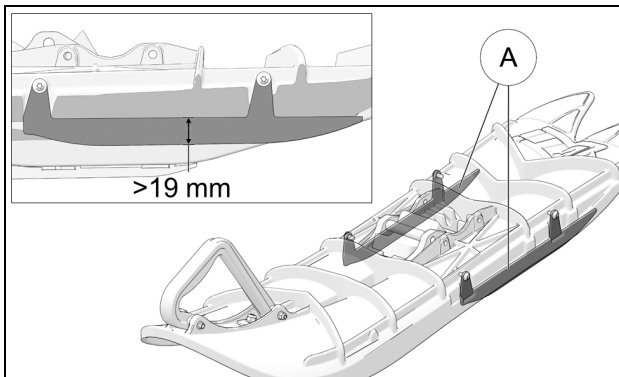

Figure 63
Verify the Side runners (A) mounted on the ski. If they show rounded edges, they should be re-sharpened. Replace part if the height of a runner is under 19 mm (25mm when new). See Figure 63.